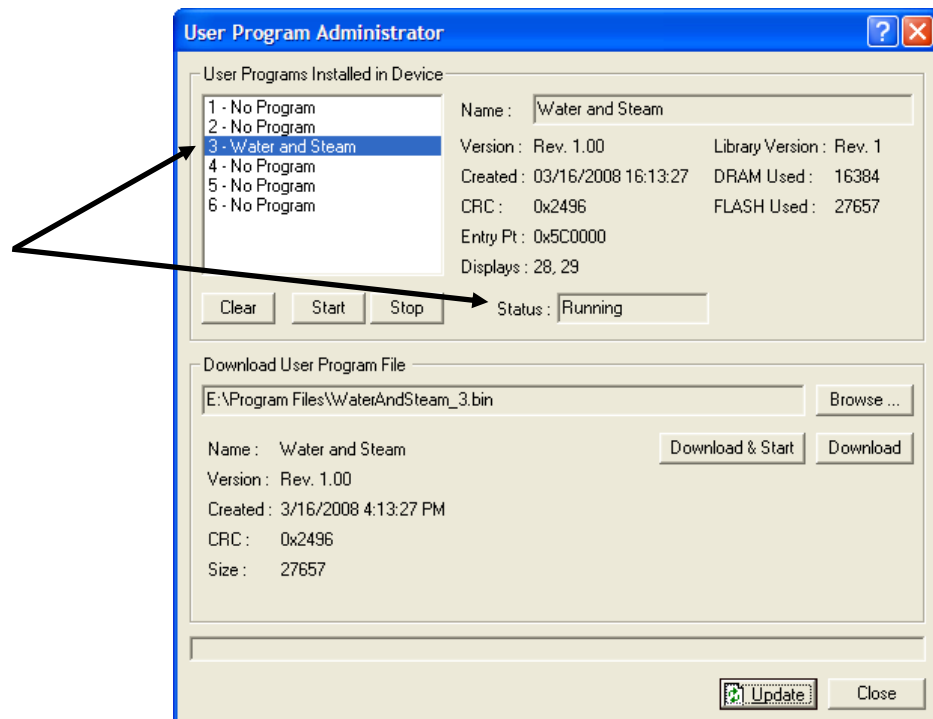

Figure 9. User Program Administrator
- Click **OK**. The User Program Administrator screen displays (see Figure 9). Note that: